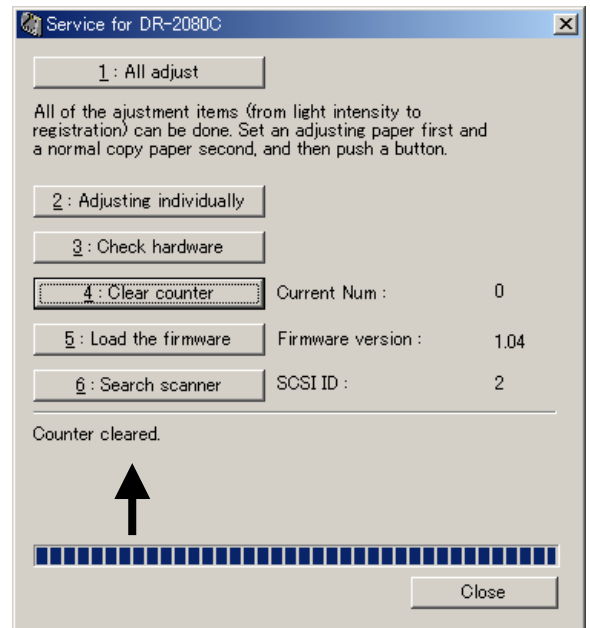

Fig. 5-13
- 2) When it's finished, "Counter cleared" appears. (See Fig. 5-13)